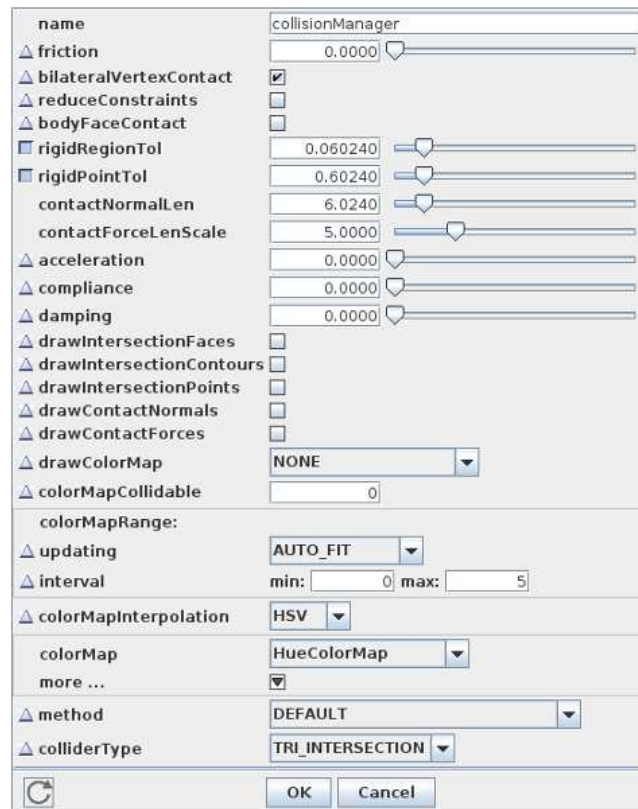

Figure 79: Property panel for the collision manager.
- More detailed collision control can be realized by selecting the `MechModel`’s collision manager in the navigation panel (Section 4.2). Choosing “Edit properties ...” or “Edit render props ...” from the right context menu then allows other properties to be set to control either the collision behavior or the rendering of collisions. A sample property panel is shown in Figure 79, and these properties are described in the “Collision Handling” section of the ArtiSynth Modeling Guide.